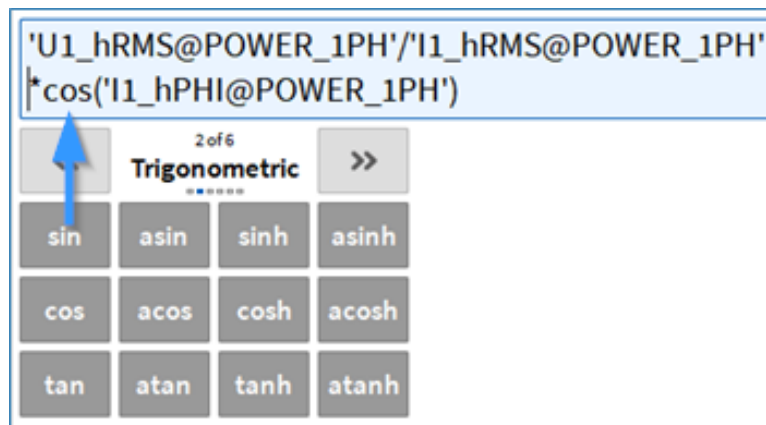

Fig. 7.75: Trigonometric operators in combination with array channels
- Trigonometric operators (see Fig. 7.75)